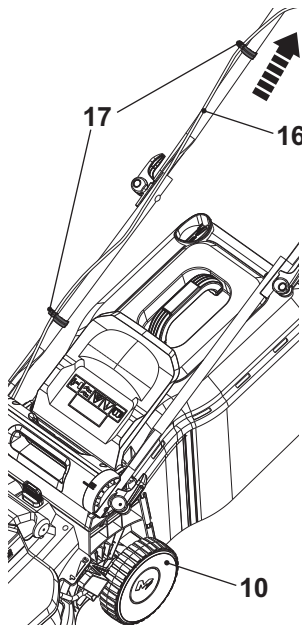

Fig. 4
8. Secure the inter-connection cord (16) with two wire clips (17) (Fig. 4). Pull the inter-connection cord (16) to avoid contact with the rear wheel (10) if necessary.